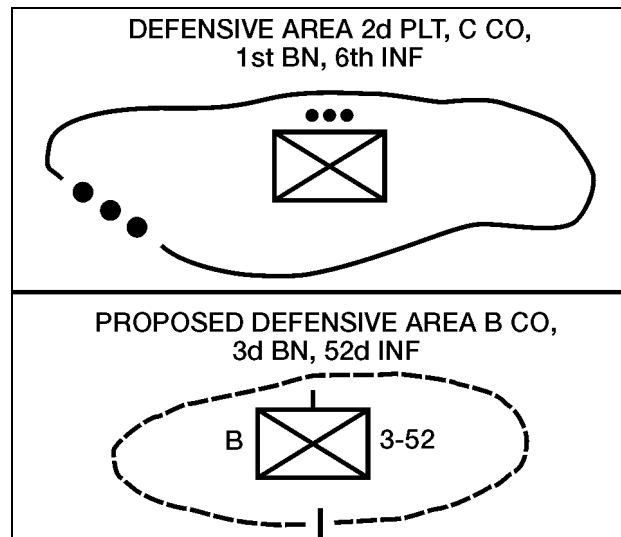

Figure 071-332-5000-18. Defensive Area
(1) Line of departure (LD). The LD is a control measure to coordinate the advance of an attacking unit (figure 071-332-5000-19). The LD should be—